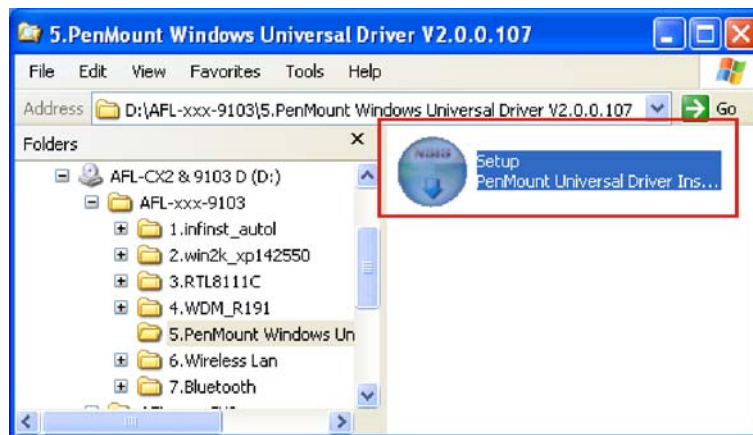

Figure 6-22: S-Video Patch Folder
Step 2: A new window appears (Figure 6-22).
Step 3: Double-click the **setup** icon (Figure 6-22).